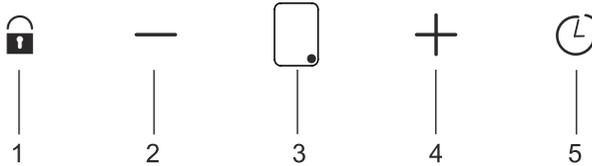

Fig. 28
2. Then keep the timer button pressed until  is displayed on the digital screen (Fig. 28/1).
3. After the fan is unlocked, you can use "+/-" button to adjust the operation speed (Fig. 28/2,4)
4. As the appliance is being operated at any level, pressing  button will enable the 15 minute timer. As the timer counts back, the speed rate on the digital screen will flash. After 15 minutes, any function that is enabled before the timer will be turned off.(Fig. 28/5).